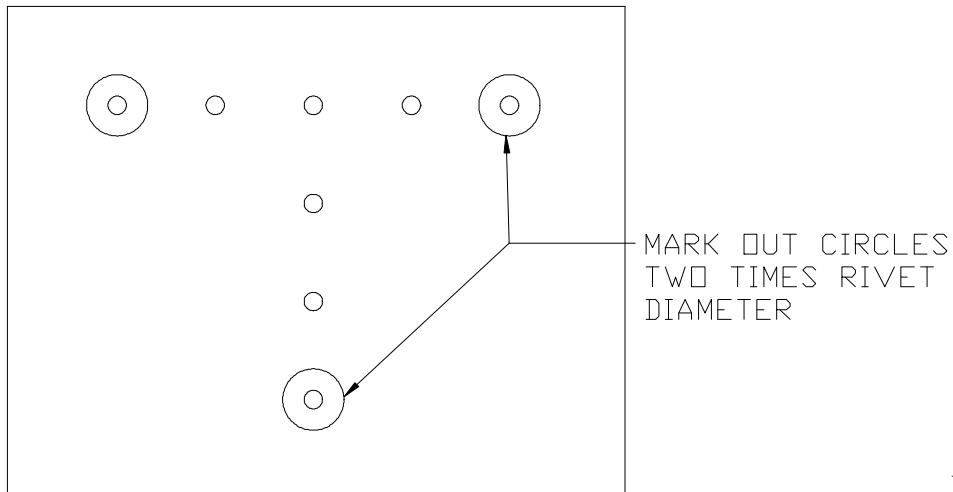

Figure 1.25.2
- 4) Draw circles around the end holes to mark out the shape of the Gusset. As shown in Figure 1.25.2. The radius of the circle should be two times the rivet diameter.